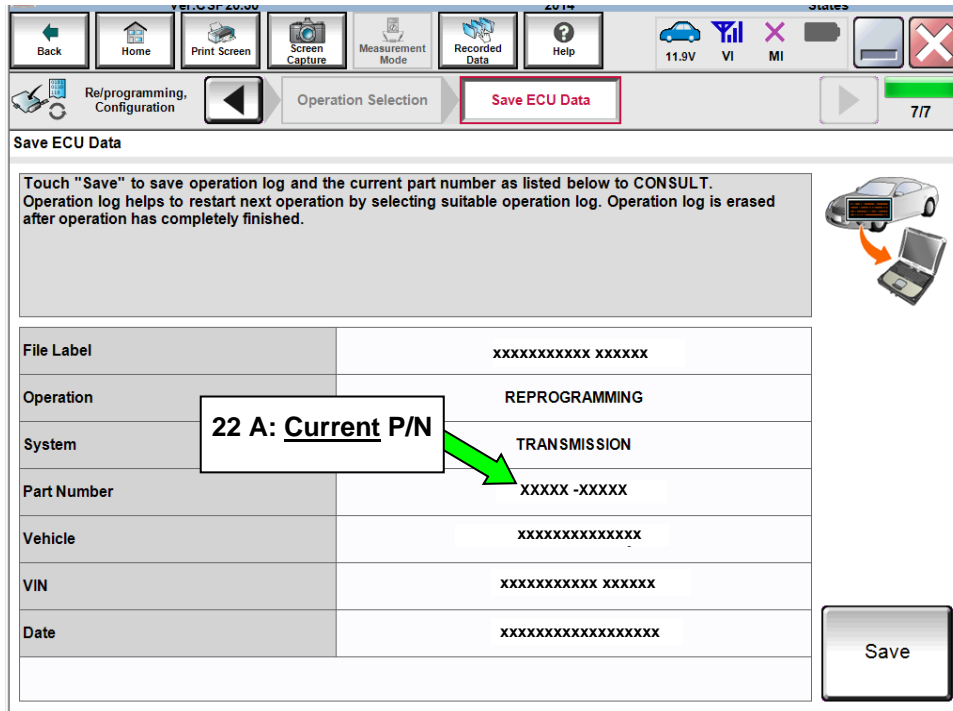

Figure 9
21. Follow the on-screen instructions and navigate C-III plus to the screen shown in Figure 9 below.
22. When you get to the screen shown in Figure 9, confirm TCM reprogram applies as follows.